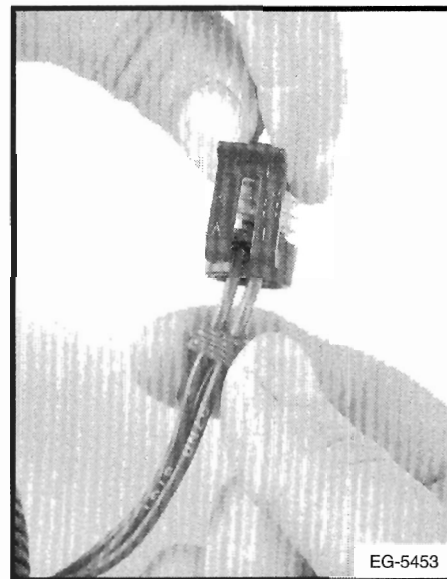

Figure 6-30. – Slide The Insulator Back
2. Slide the insulator down the wires away from the connector body (Figure 6-30.).